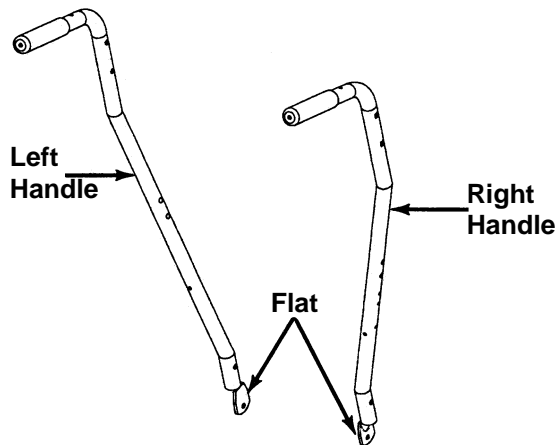

Figure 2
2. Identify left and right handles as shown in figure 2. The flats on the lower part of handles will be placed against the snow thrower housing.